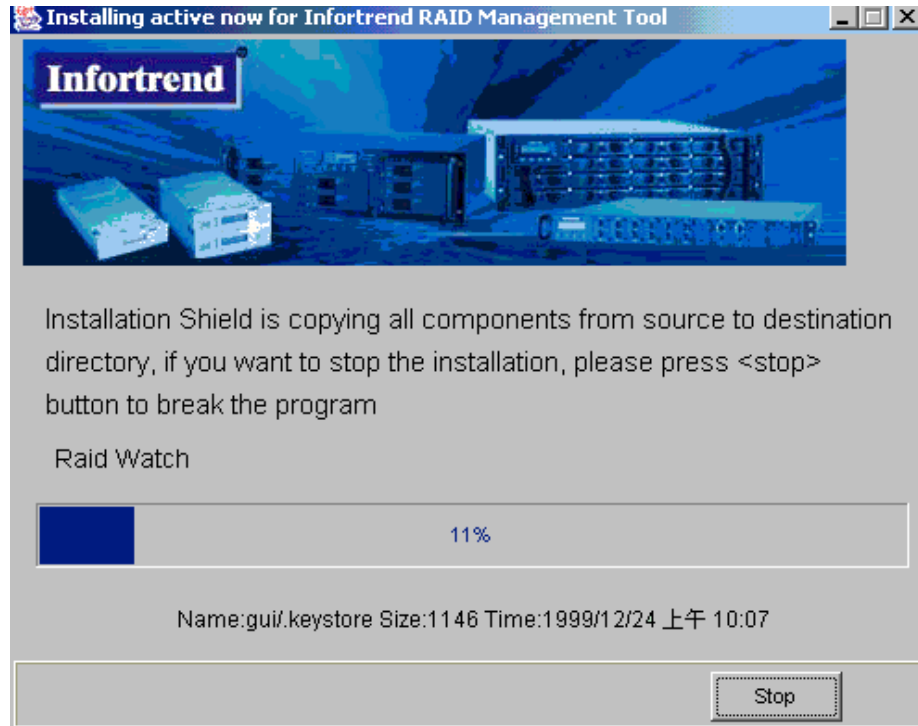

Figure 2-11: Installing Active
Step 5. If the “*Next*” button from *Figure 2-11* was selected, the Install Active window shown in *Figure 2-12* will appear. If you wish to stop the installation procedure, then click the “*Stop*” button. If you wish to continue installing the Applet components, allow the installation shield to continue the installation process uninterrupted.